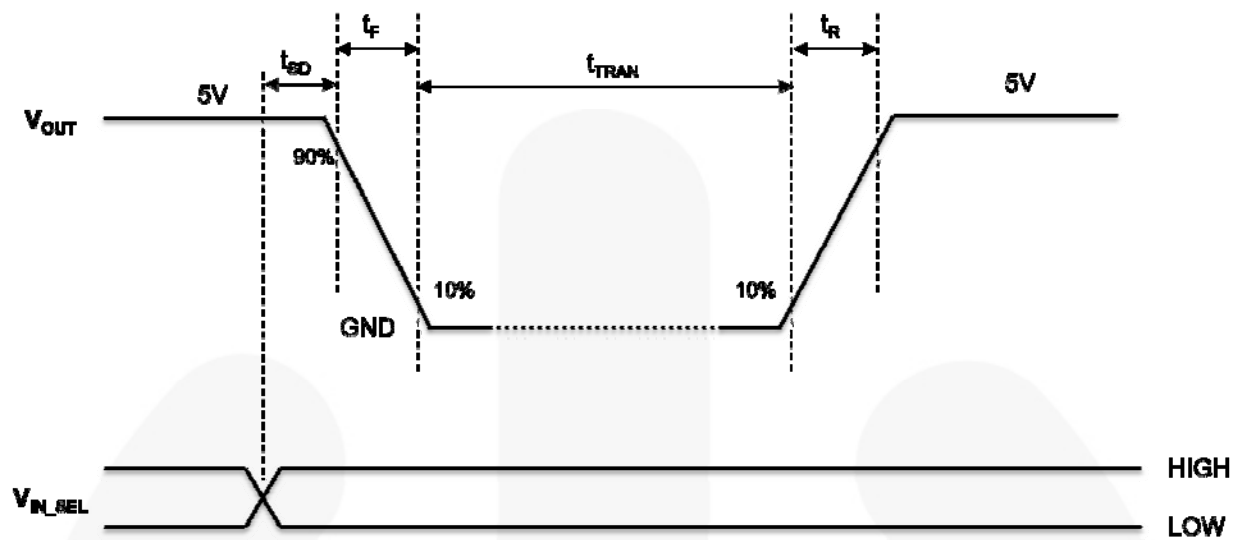

Figure 5. Transition Delay ($V_{IN}=V_{BUS}=5\text{ V}$)
- $t_{SD}/t_{TRAN}/t_R/t_F$ are defined in Figure 5.